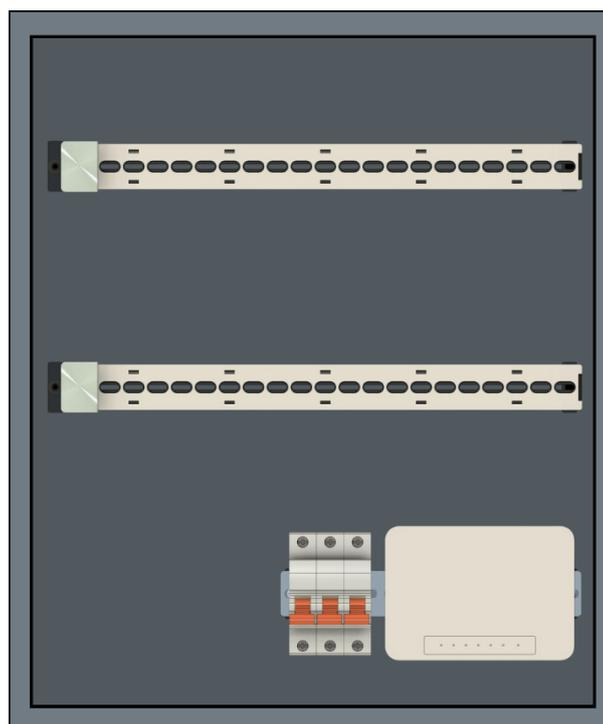

Figure 2 EBQ placement in DB Box
2. Places and screws EBQ master on rail as shown in the Figure 2.